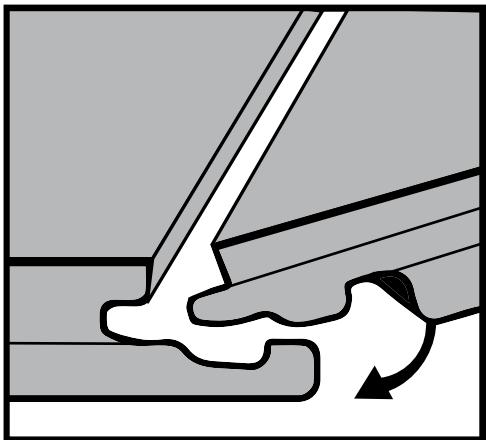

Figure 3
- Attach the second plank to the first plank in the first row by holding the plank at a low angle to the floor and inserting the end tongue into the end groove applying light pressure inward and down until the planks secure together. (See figure 3.)